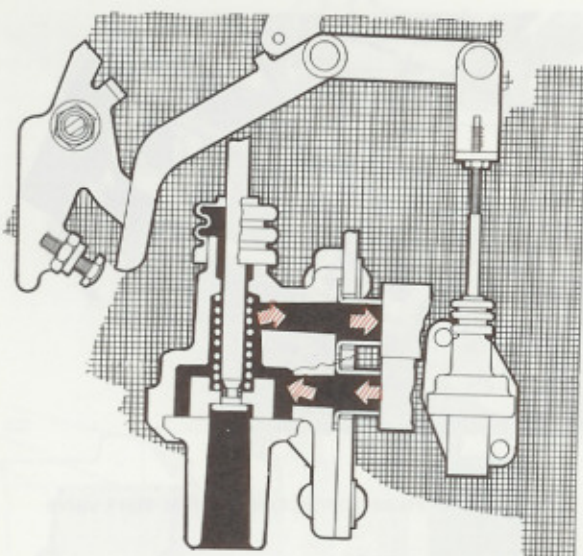

Fig. 23-13. Hot start valve function, driving
When the accelerator pedal is depressed, the throttle control lever (1, Fig. 23-13) breaks contact with the valve control and the piston (14) is pressed by the spring (15) to its bottom position. The outlet (12) is shut off, fuel fumes are led into the air cleaner, and when the engine starts running, these fumes are led further through the carburettor and into the engine combustion chambers.